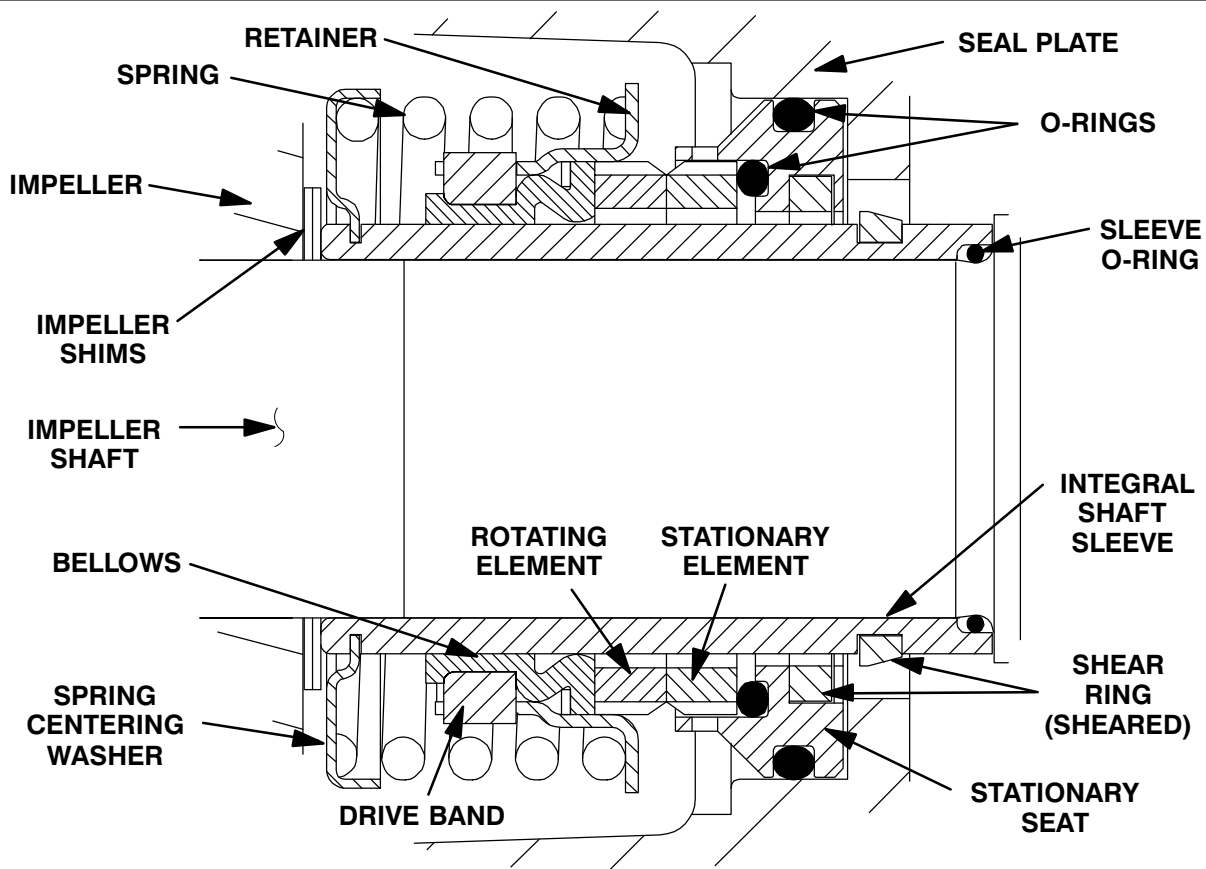

FIGURE 5. Cartridge Seal Assembly
To ease installation of the seal, lubricate the shaft sleeve O-ring and the external stationary seat O-ring with a very **small** amount of "P-80® Emulsion" or water. See Figure 5 for seal part identification.
Clean and inspect the impeller as described in **Impeller Installation and Adjustment**. Install the full set of impeller shims (2) provided with the seal, and screw the impeller onto the shaft until it is seated against the seal (see Figure 5).